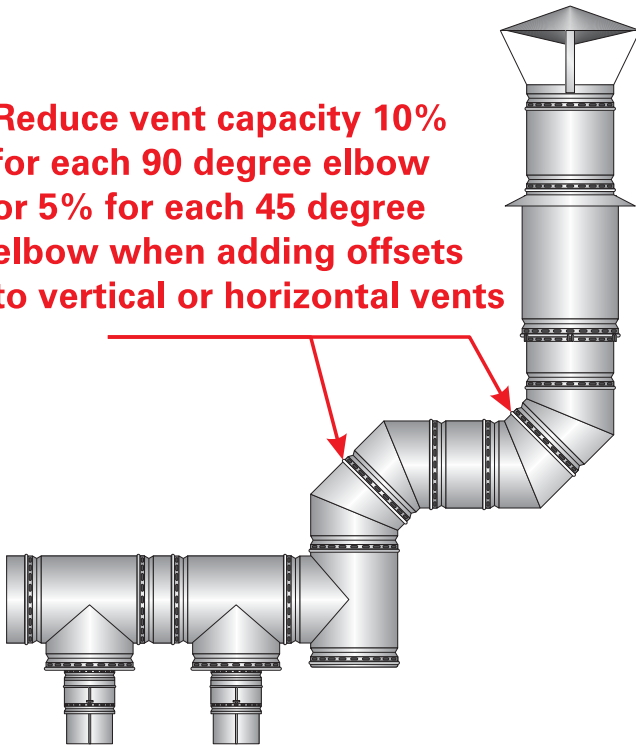

Figure 4.1: Reduce Vent Capacity if Vertical is Offset Rather Than Straight Up
4. The vent sizing information in the manual does not allow for offsets in the vertical vent section. If the vertical vent is offset, reduce the vent capacity by 20% for each set of 90 degree elbows in the offset or 10% for each set of 45 degree elbows in the offset (Figure 4.1).